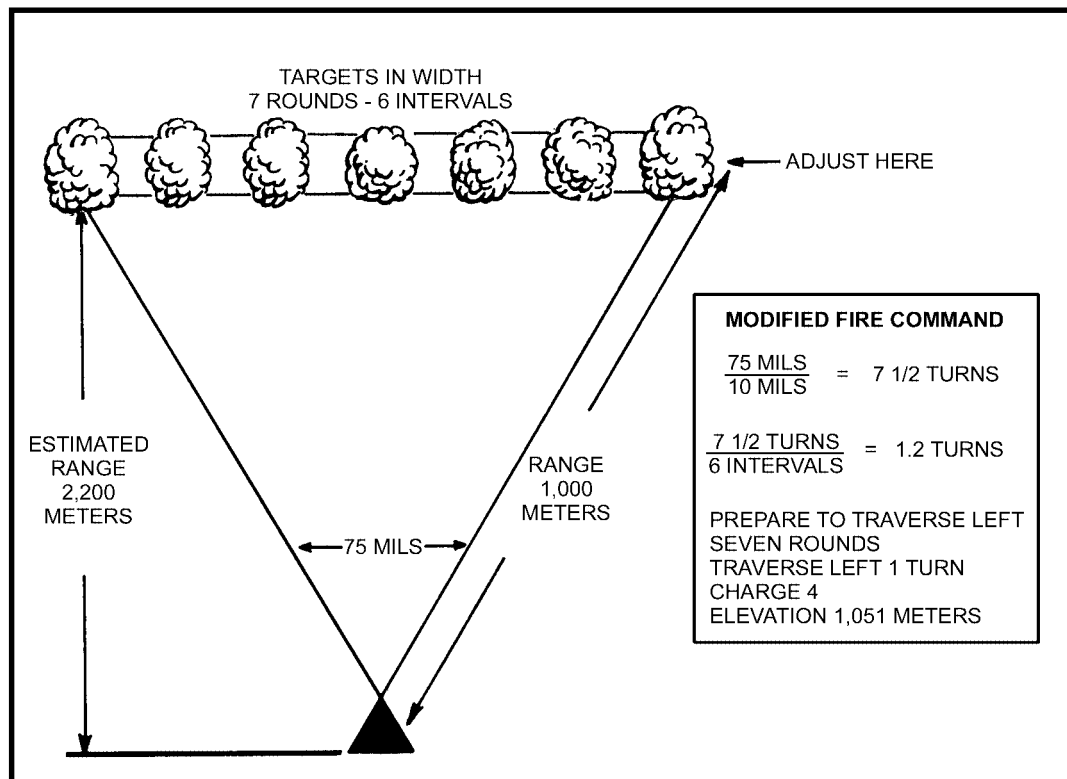

Figure 8-2. Traversing fire.
e. In Figure 8-2, the FO measures the width of his target to be 75 mils. Using a map, he estimates the range to be 2,200 meters. Using the mil relation formula, he determines the width of the target to be 165 meters and decides to attack the target with seven rounds. There will be six intervals between the seven rounds. Since the target is 75 mils wide, he determines the number of turns to be $7\frac{1}{2}$ turns. To determine the number of turns between rounds, he divides the number of turns by the number of intervals ($7\frac{1}{2}$ divided by 6 = 1.07). This is rounded off to the nearest one-half turn (1 turn).